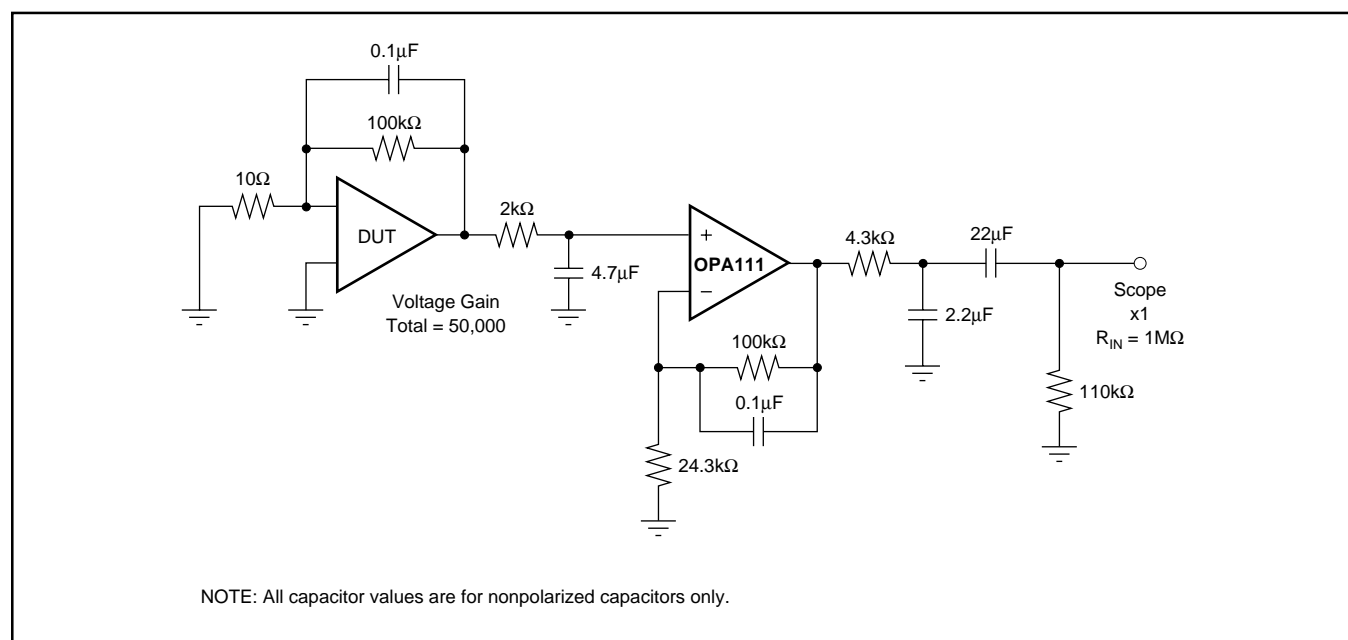

FIGURE 1. 0.1Hz to 10Hz Noise Test Circuit.
NOTES: (1) Measured with industry-standard noise test circuit (Figures 1 and 2). Due to errors introduced by this method, these current noise specifications should be used for comparison purposes only. (2) Offset voltage specification are measured with automatic test equipment after approximately 0.5 seconds from power turn-on. (3) Unnulled or nulled with $8k\Omega$ to $20k\Omega$ potentiometer. (4) Long-term voltage offset vs time trend line does not include warm-up drift. (5) Typical specification only on plastic package units. Slew rate varies on all units due to differing test methods. Minimum specification applies to open-loop test. (6) This parameter specified by design.